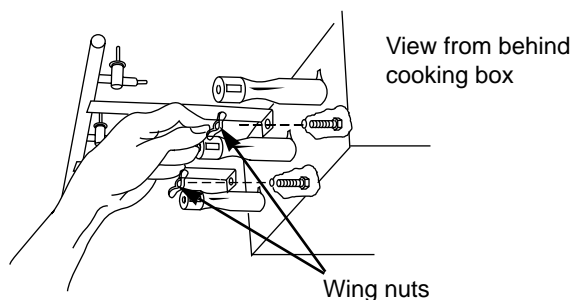

Figure 10
f) Remove the manifold bracket and unscrew the two wing nuts that hold the manifold to the cooking box. Pull the manifold and valve assembly out of the burners and carefully set it down. Figure 10.